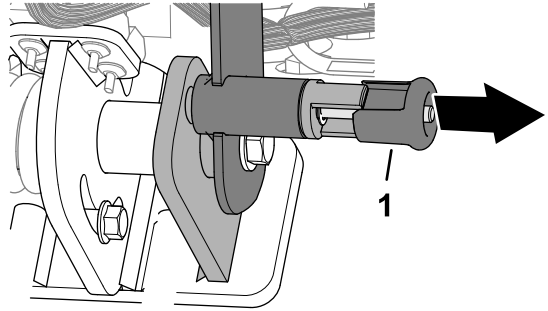

Figure 74
1. Pull the knob for the handlebar latch (Figure 74).